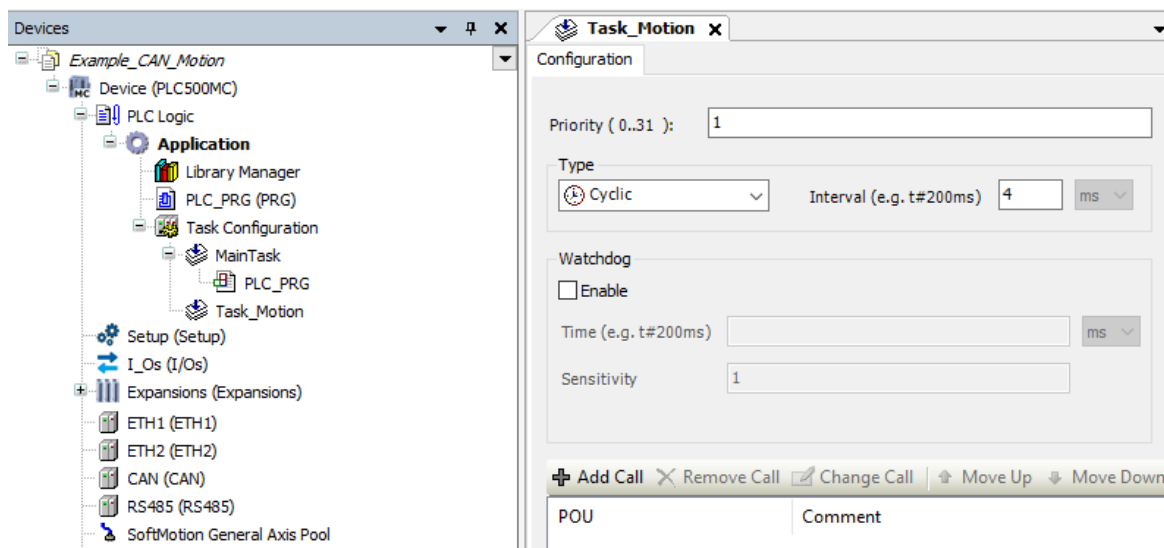

Figure 6.1: Priority settings.
- Add a new task responsible for the motion control (**Motion_Task**) in this application. Apply the settings as show in Figure 6.1.